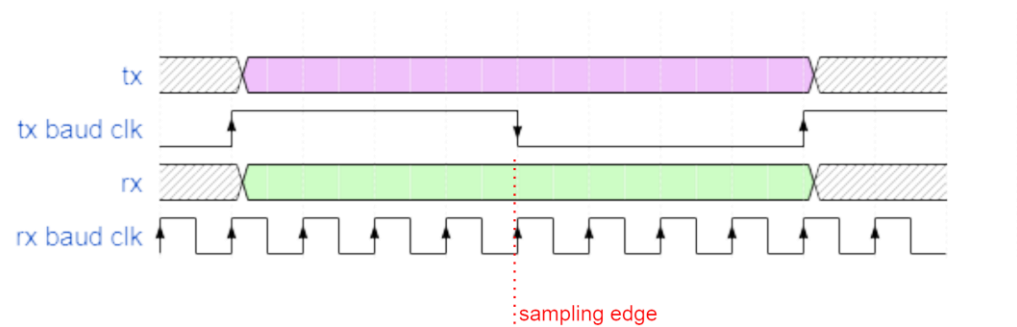

Figure 3.3: UART RX – Sampling at x8
- **UART Receiver:** Converts serial data received via RX to parallel data. Contains two RX buffers. One to shift and store the incoming data and second buffer holds the valid data to be read out. The Receiver samples the data at x8 rate and samples in the middle of the data (see Figure 3.3).